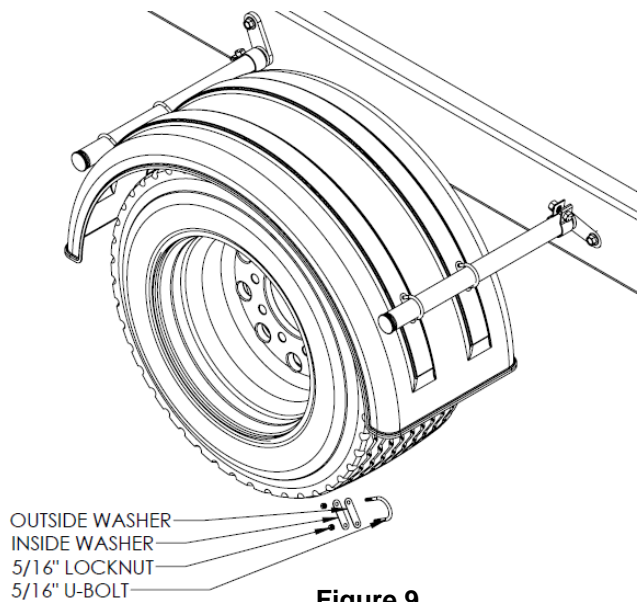

Figure 9
- Place one washer on the inside and outside of the fender. Use three U-bolts per fender bracket tube (see Figure 9).